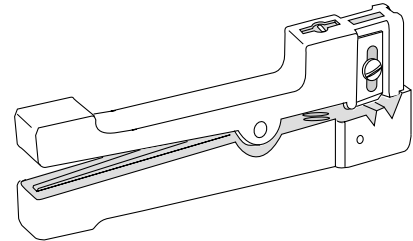

Figure 1
**1.1** This procedure describes how to use an Ideal® coaxial cable stripper (Figure 1) to score the buffer tubes found in Corning Cable Systems fiber optic cables. Scoring the circumference of the tube will enable you to make a clean break in the tube with minimal risk to the fibers inside.